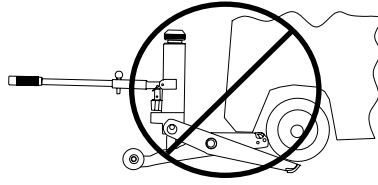

Figure 6
- WARNING!** NEVER use any other area on the jack as a contact point (see Figure 6).